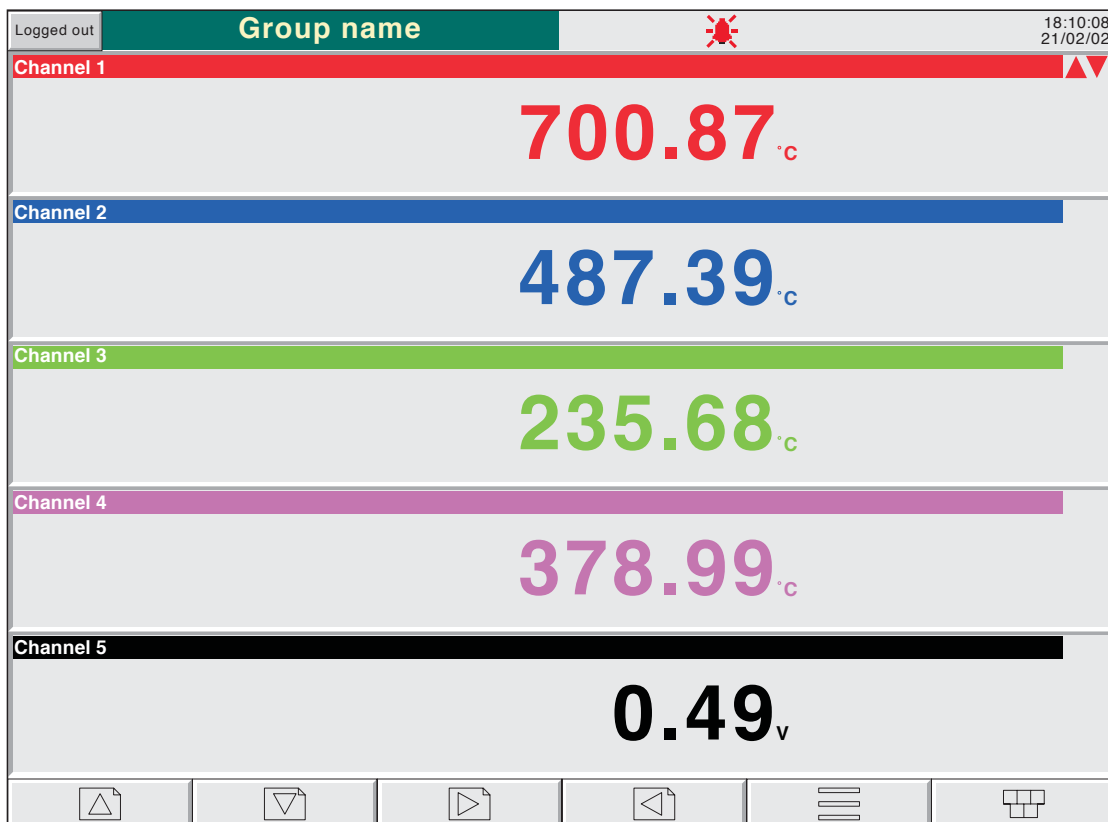

Figure 3.4.5a Numeric display mode (1 to 5 points)
Entered from Horizontal bargraph mode by means of the down arrow key, or selected using the Root Menu 'Goto View' key, this display mode shows the Process Variable (PV) values as digital values. The format (which is automatically selected) is based on the number of channels in the display group. Figures 3.4.5a, 3.4.5b and 3.4.5c, show typical examples of the one column (up to five points), two column (six to 18 points) and three column versions (19 to 24 points) of this display mode respectively (where 'points' means input channels, totalisers, counters, maths channels etc.). Within each version, the process variable display areas expand or contract to fill the screen.